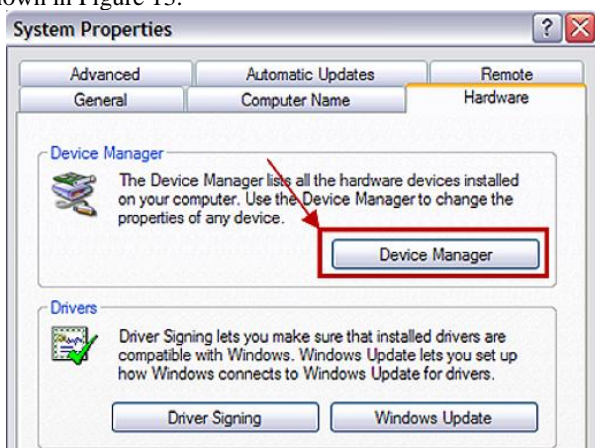

Figure 14. Windows XP System Properties
2. Click the **Hardware** tab of the **System Properties** window, as shown in Figure 14. **Error! Reference source not found.**